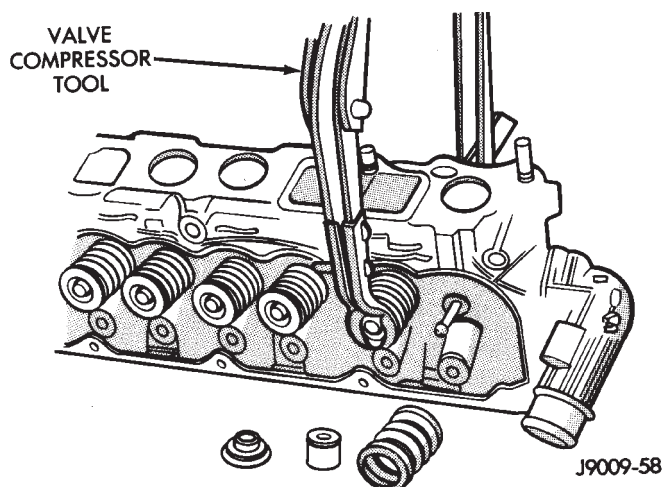

Fig. 18 Valve Compressor Tool C-3422-B (J-8062 or 8014)
(1) Remove the engine cylinder head from the cylinder block.
(2) Use the Valve Compressor Tool C-3422-B (J-8062 or 8014) and compress each valve spring (Fig. 18).
(3) Remove the valve locks, retainers, springs, and valve stem oil seals. Discard the oil seals.
(4) Use an Arkansas smooth stone or a jewelers file to remove any burrs on the top of the valve stem, especially around the groove for the locks.
(5) Remove the valves, and place them in a rack in the same order as removed.